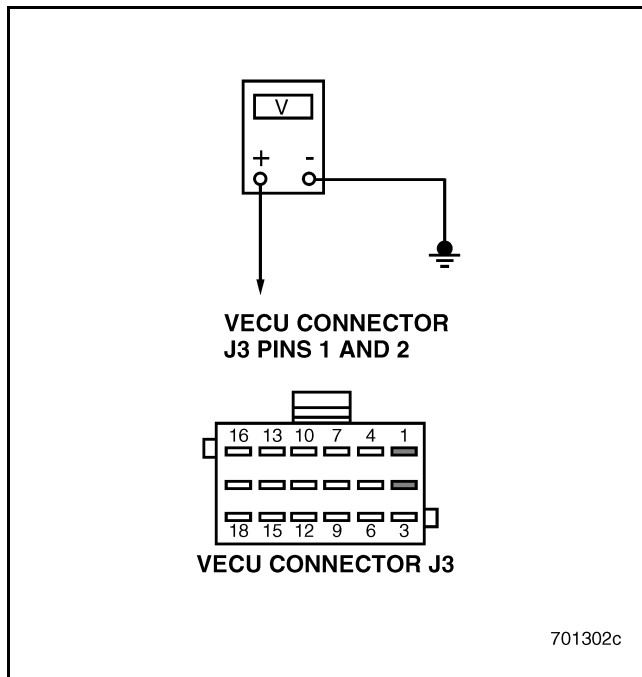

Figure 642
4. Measure the voltage between VECU connector J3 pins 1 and 2 versus a good ground (see Figure 642).